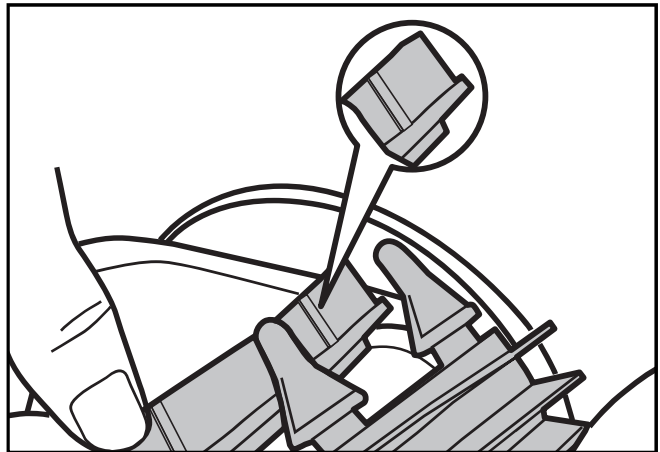

Figure 14. Wear Indicators
The cleaner is fitted with PVC brushes in front and rear. There are "wear" indicators (Figure 14) on the brushes. To maintain cleaner performance at its best you need to replace the brush matt as soon as one of the wear indicators has been reached (even if the bristle wear is not even). Zodiac Group Australia Pty Ltd recommends that you replace the brushes every two (2) years.